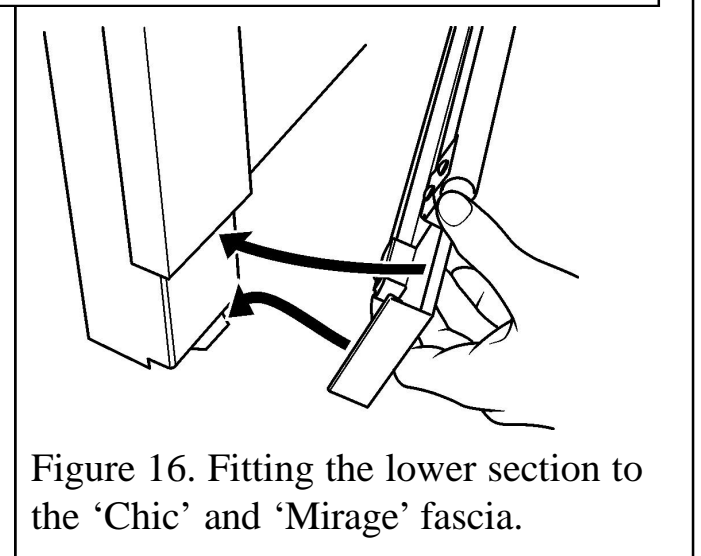

Figure 16. Fitting the lower section to the 'Chic' and 'Mirage' fascia.
1. The lower section of the fascia is secured with magnets. Locate it as in figure 16. The bottom of the lower section should sit on the tags as shown.